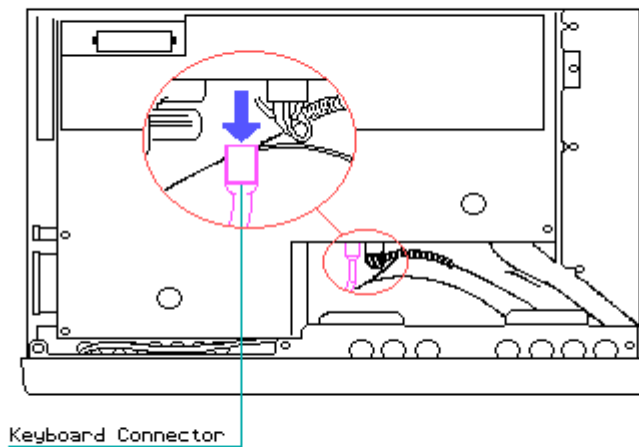

Figure 7-9. Disconnecting the Keyboard Connector from the System Board
2. Disconnect the keyboard cable connector from the J116 socket connector on the system board (Figure 7-9).